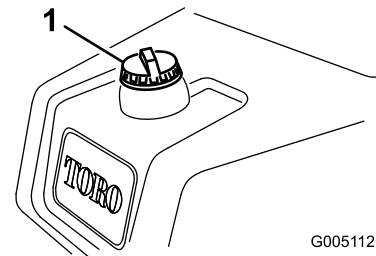

Figure 29
1. Clean around the fuel-tank cap and remove it (Figure 29).